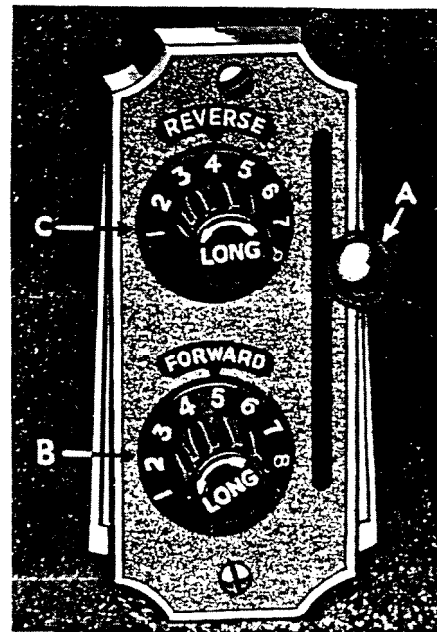

FIGURE 14
See Fig. 14. To reverse the feed and sew backward at any time, without stopping the machine, merely press shift lever (A) down in slot. The pressure of one finger is sufficient, and while lever is being held down the sewing will feed backward. When lever is released it returns automatically to its top position in the slot and the machine sews forward again in the regular way. The lever may be moved up and down at will, regardless of the speed at which machine is running. This is a fool-proof device as it is impossible for the operator to leave the machine set for reverse stitching.
See Fig. 14. The length of the stitch for normal sewing (forward) is regulated by the lower dial (B) and pointer. No. 1 on the dial indicates the shortest stitch and No. 11 the longest for regular sewing.